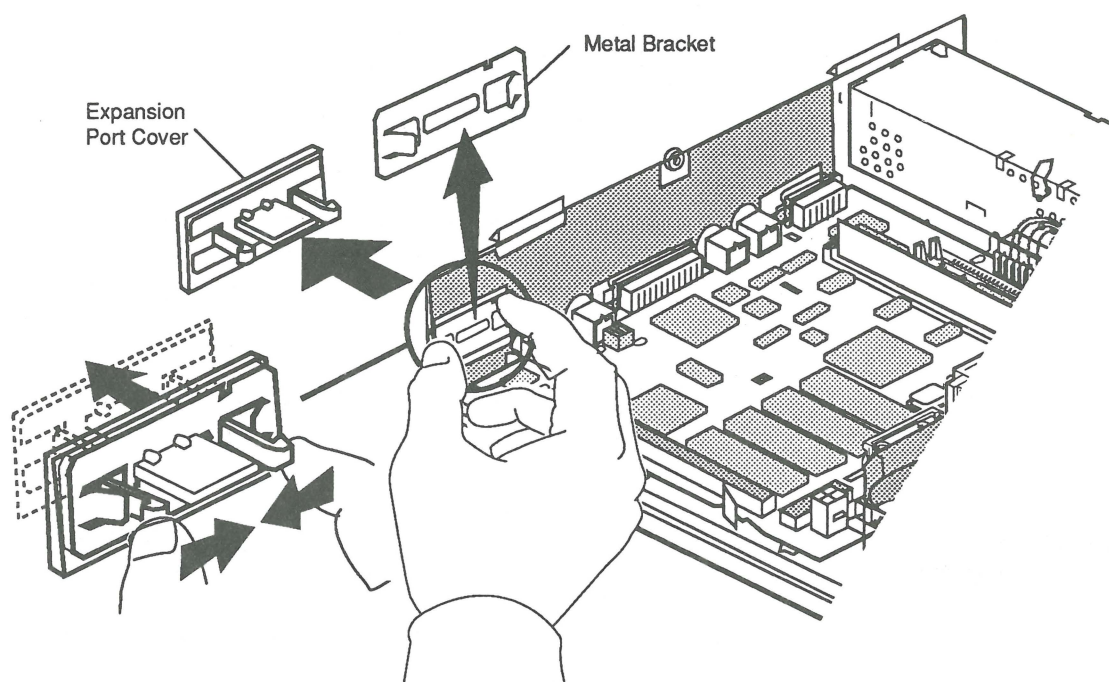

Figure 1-1 Removing the Expansion Port Cover
3. **Figure 1-1.** If necessary, remove the expansion port cover from the bottom case of the Macintosh LC. Squeeze together the two plastic mounting tabs on the expansion port cover, and push the cover out. Remove the metal bracket.